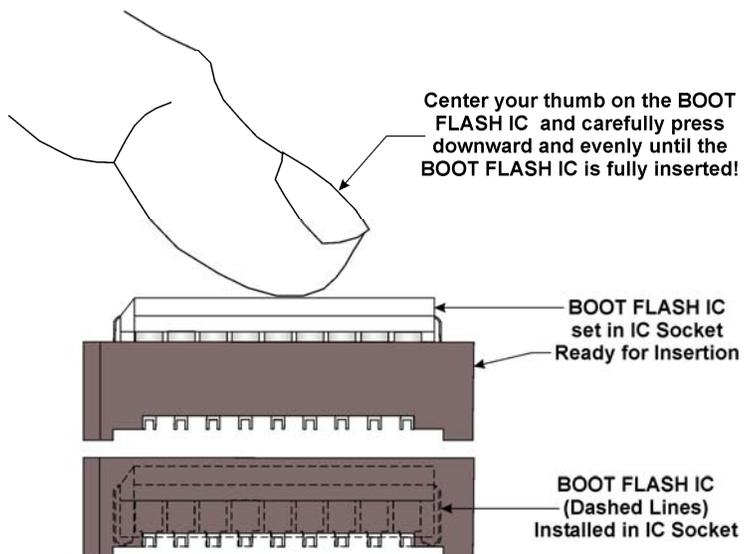

Figure 2 – BOOT FLASH IC Replacement
Part 5 - Reinstalling the Chip (Refer to Figure 2)
1. Set the BOOT FLASH IC onto the FLASH IC Socket of the ControlWave's CPU board (as shown in Figure 2).